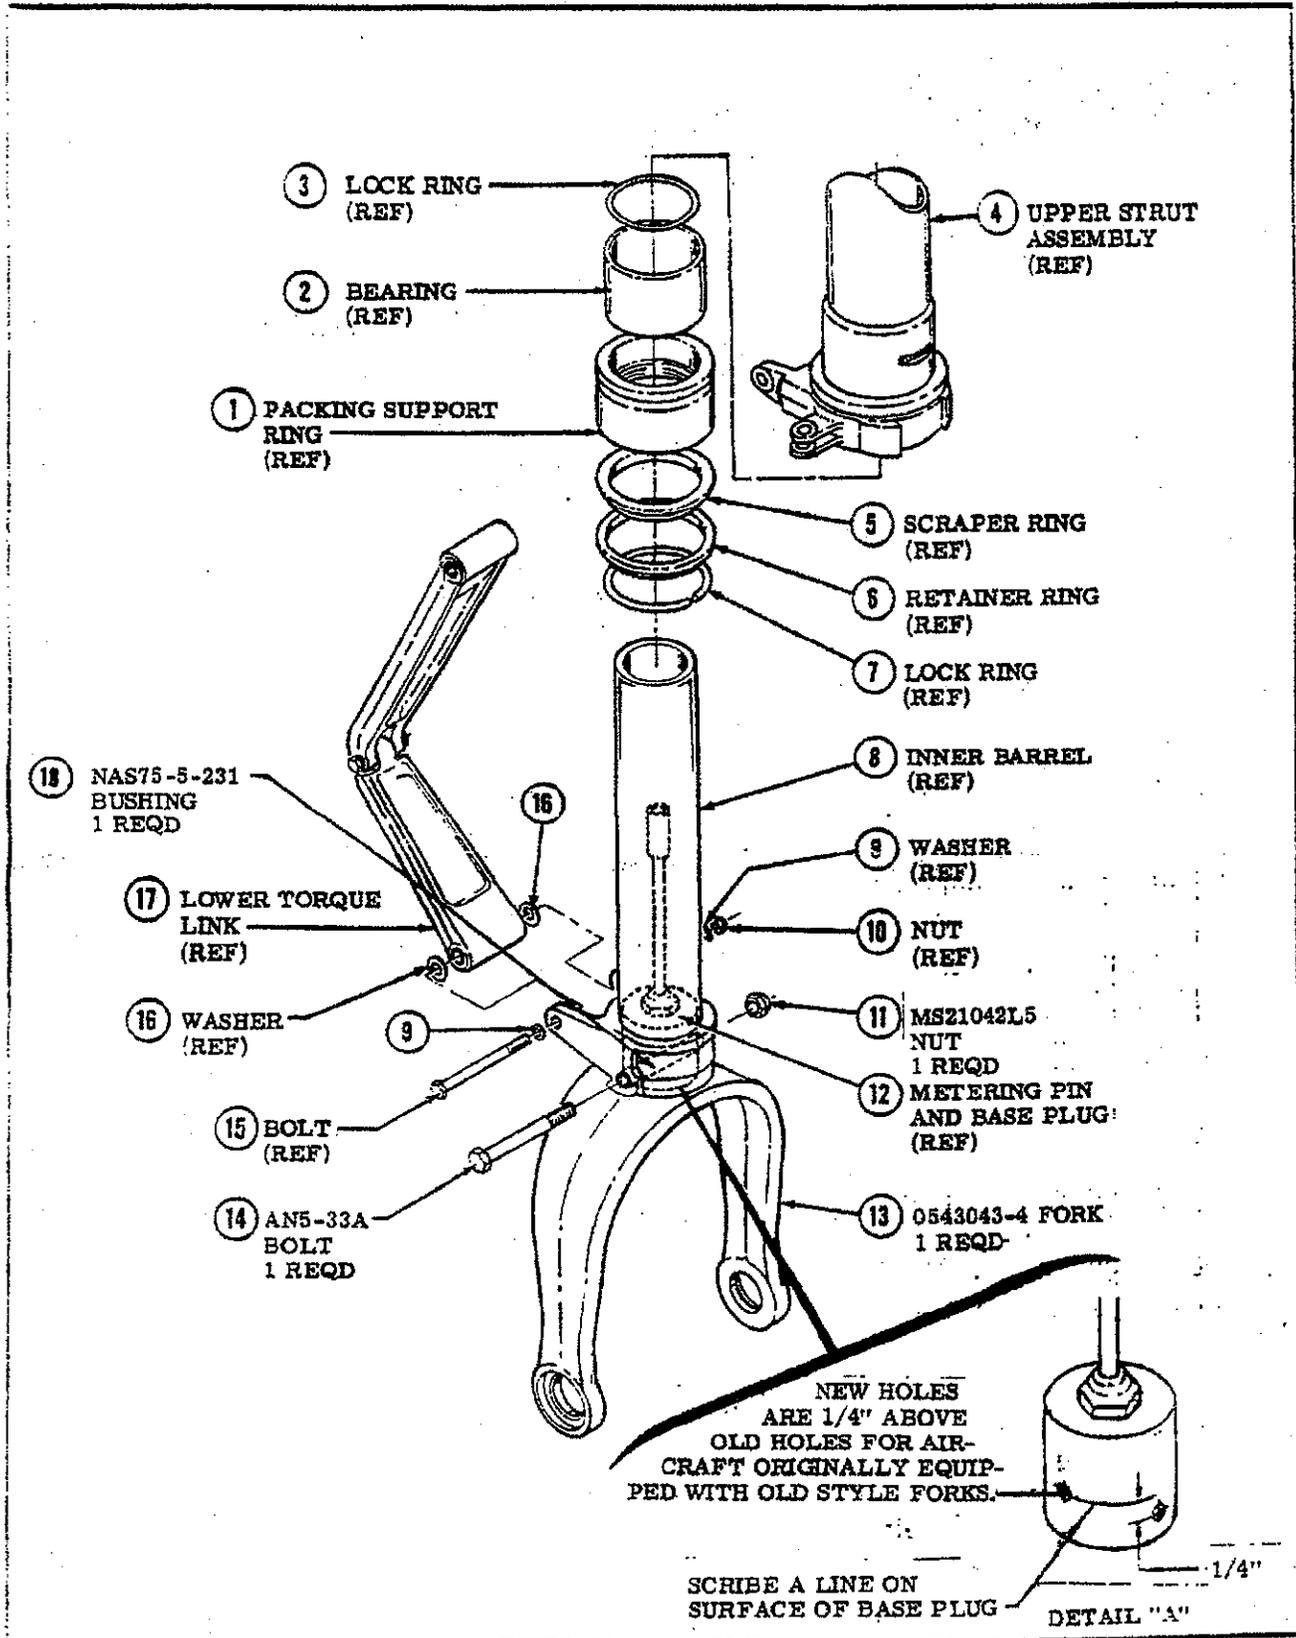

Figure 1. Nose Wheel Lower Strut and Component Parts
a. (Refer to figure 1.) Replace the nose wheel fork as follows:
- (1) Weight the tail down to raise the nose of the airplane.
- (2) Remove the nose wheel and the speed fairing.
- (3) Deflate the nose gear strut and remove the air valve.
- (17) Scribe a line around the base plug 1/4" above the original mounting holes. (See detail "A," figure 1.)